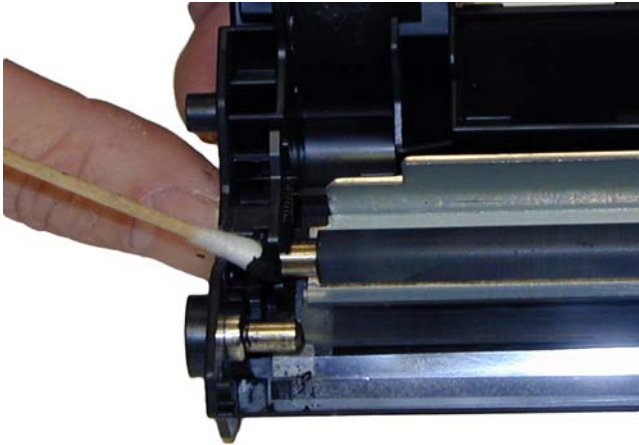

Figure 13
9) Install the cleaned PCR. Place a small amount of conductive grease on to the black holder side of the shaft. Just a small amount of grease is more than sufficient. See **Figure 13**